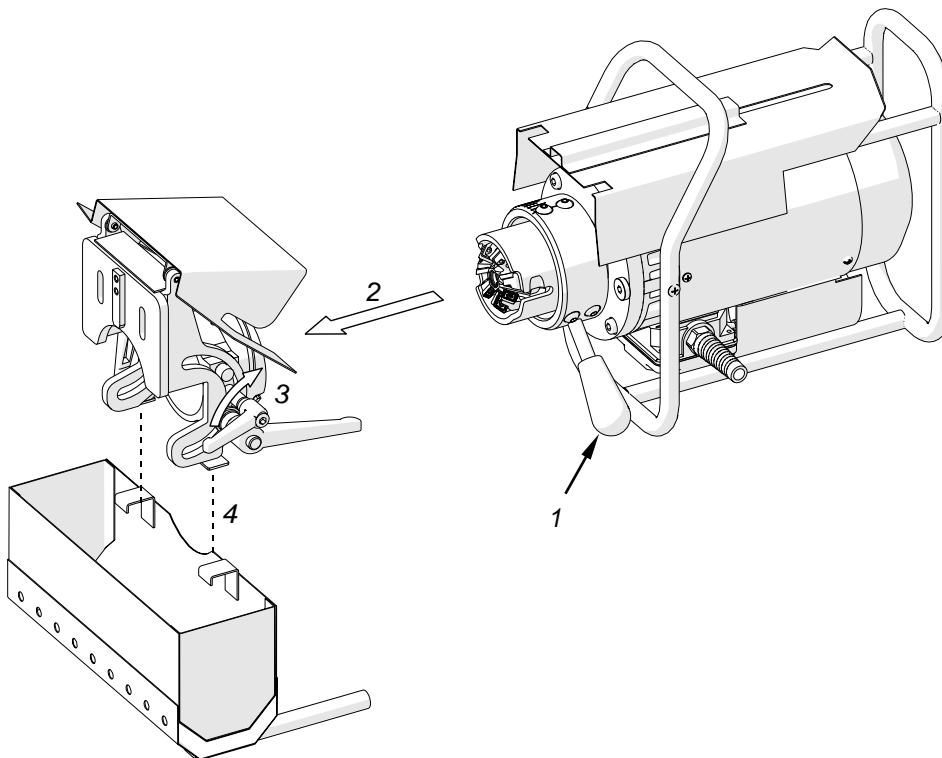

Fig. 4. Installing the milling unit
Set the lever 1 in the position as in Fig. 4, insert the milling unit horizontally into the support (2), and lock the bevel depth lock lever (3). If the plate is to be machined at a positive angle (from the top), set the chip container on the brackets (4).
Install the milling unit in the manner shown in Fig. 4.